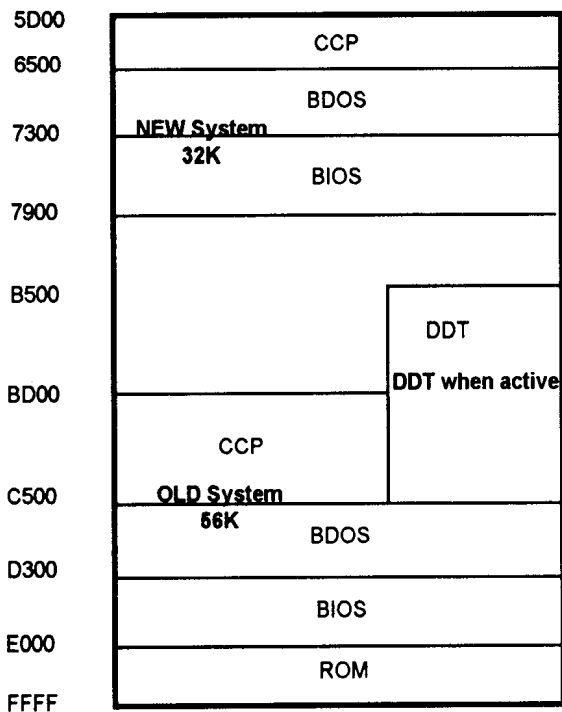

Figure 2: The memory map of CP/M. Also the BIOS JMP table. Two memory maps, one for 32K development and one for maximum memory with the DJ2D.
desired memory size. To modify the BIOS, the user re-assembled it at the desired memory size as well. (Hint: some MOVCPM's will also re-address the BIOS code as well as CP/M, so reassembly is unnecessary.) Traditionally, DDT was used to "glue" these two together in memory, and SYSGEN was used to copy them to the boot tracks. (I'll use DU instead!) Figure 2 shows typical addresses for CP/M's CCP, BDOS, and the BIOS for a 56K RAM machine. (Hint: CP/M systems with double density or larger sector sizes have more room for both a bigger boot program and a bigger BIOS, so these addresses can vary! Read your docs and prowl through your current system with DU.) See the Sidebar for more details on MOVCPM, DDT, DU, and other terms.
2) The original CP/M must run in higher memory, while the "test" CP/M will be loaded and run in lower memory; and these must also not overlap. See figure 2 for a reasonable memory map of such a configuration. Note that DDT resides just below BDOS when DDT is loaded; its size must also be taken into account. Building a 32K "test" system will give plenty of room for both CP/M's, although it will be too cramped for any serious work later.